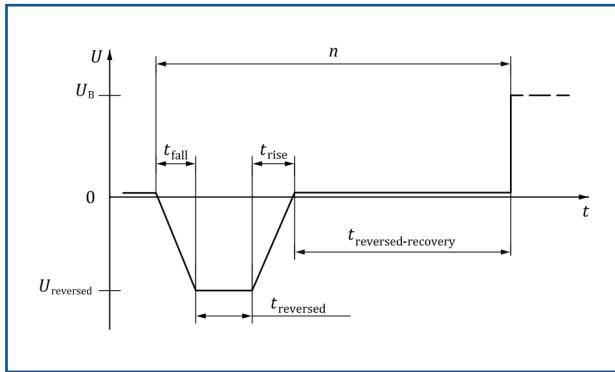

Figure 17 — Reversed voltage test case 2
- In all other cases, apply the test voltage  $U_{\text{reversed}}$  (see Figure 17 and Table 16) simultaneously to all relevant inputs (connections) of the DUT for a duration of  $(60 \pm 6)$  s.